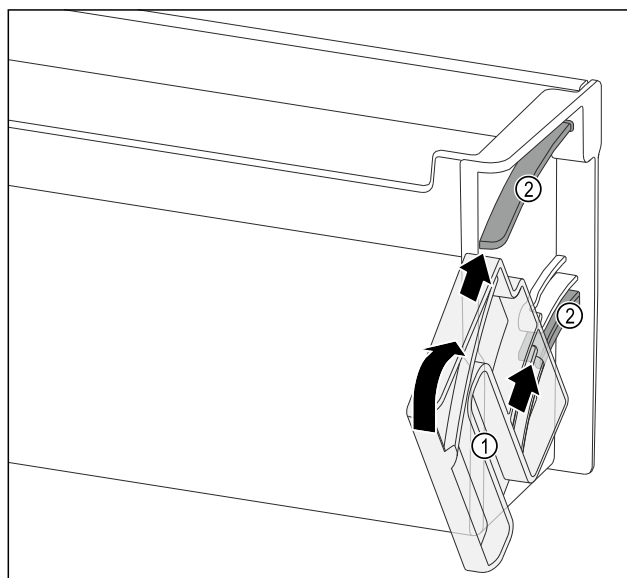

Fig. 147
- Position the turning unit *Fig. 147 (1)* so that the recesses are exactly opposite the guide channels *Fig. 147 (2)* of the door rack.
- Turn the turning unit *Fig. 147 (1)* towards the specified direction.